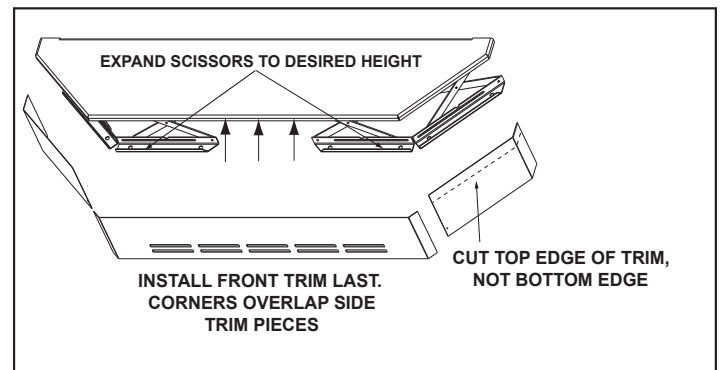

Figure 24.2
2. Expand scissors to desired height. Tighten screws to hold in place using Phillips Head screwdriver. **See Figure 24.2.**
3. Measure front and side trims to required height to cover scissors and mark pieces for cutting. Cut excess material from top of trims edge, not bottom. This edge will be sharp; wear gloves to prevent injury to your hands. **Figure 24.2.**